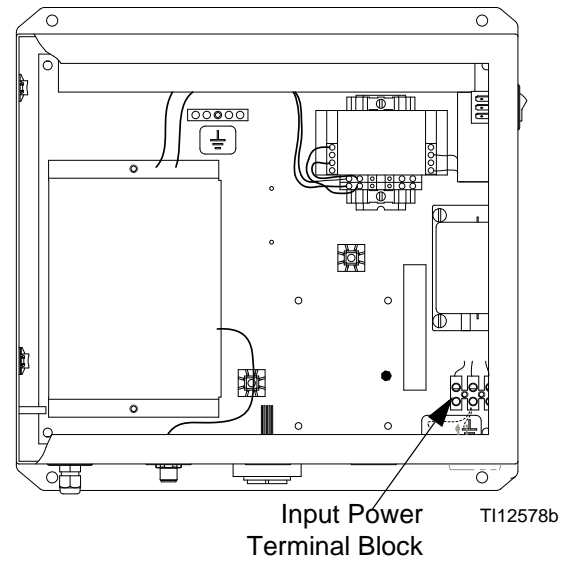

FIG. 12. Main Power Connection
2. See FIG. 12 and the **System Electrical Schematic** on page 32 for the L1, N, and ground wiring connections inside the EasyKey.